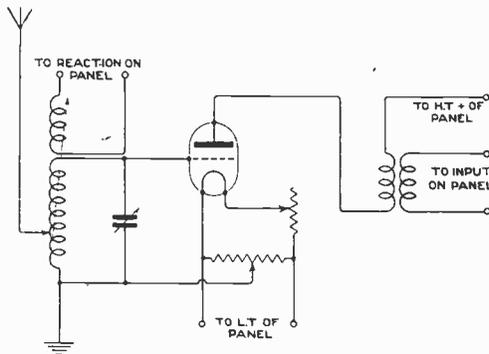

Fig. 2.
(1) and (2) Yes, this can be done. See diagram (Fig. 2.)
(3) Yes, for fairly light duty at slow speeds.